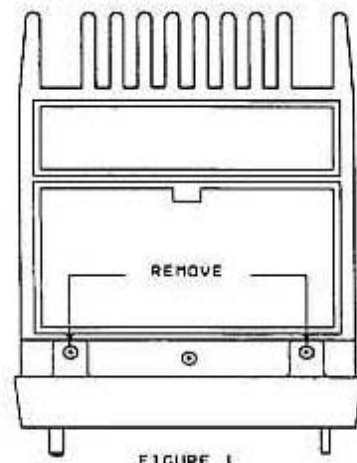

FIGURE 1
4. Remove the two brass colored screws from the top of the plastic front panel. Figure 1.